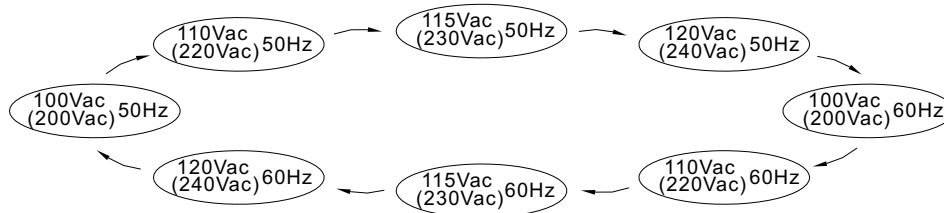

Figure 4.2: State Circulation Diagram of Output Voltage and Frequency
STEP 4: The LEDs will change state each time you press the setting button for 1 second and then release (refer to Figure 4.2). Please select the suitable combination of output voltage and frequency you need.